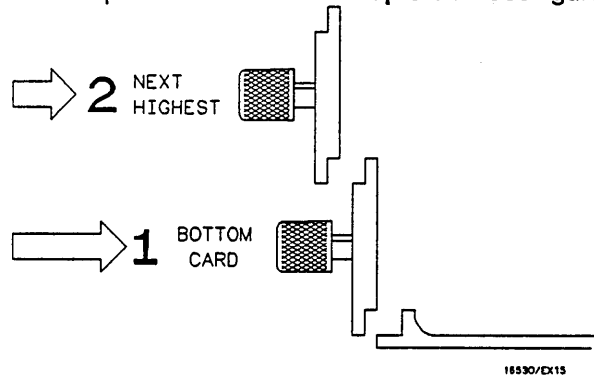

Figure 6-17. Endplate Overhang
- Repeat for all cards and filler panels in a bottom to top order. See figure 6-17.